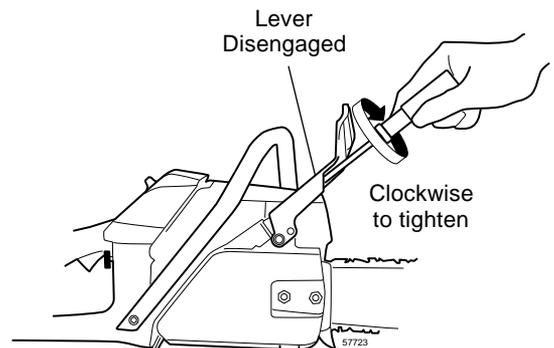

Figure 10.4 Adjusting the Chain Brake (except 357, 377 and 757)
STEP 2. Insert a thin screwdriver into the slotted head on the brake spring adjustment screw, and tighten (clockwise to tighten) or loosen the adjuster until the brake band completely releases the drum (Figure 10.4).